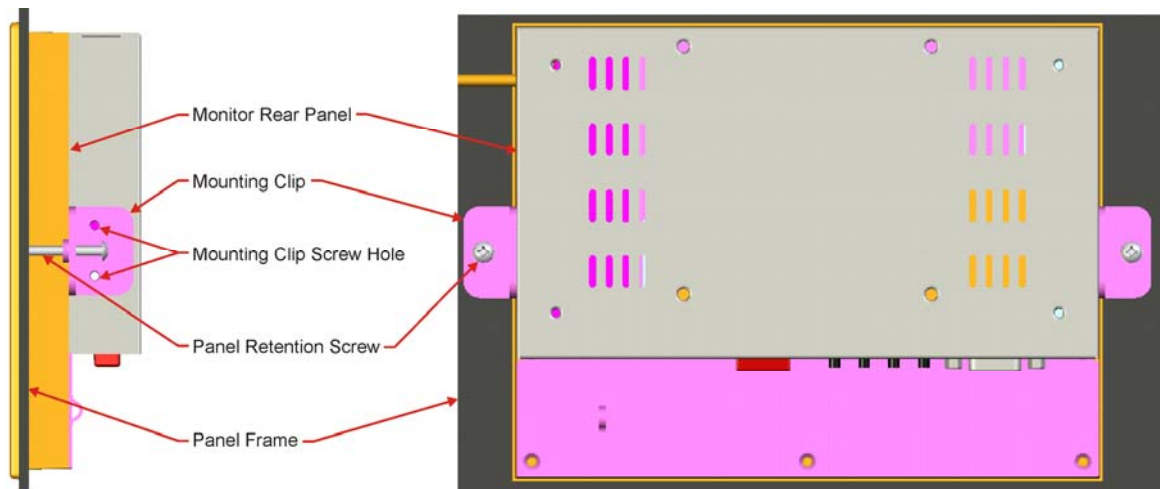

Figure 5-17: DM-65 Panel Mounting
Step 2: Secure the panel mounting clips to either side of the monitor using the retention screws supplied in the mounting kit pack (**Figure 5-17**).
Step 3: Tighten the panel retention screws that pass through the panel mounting clips until the plastic caps at the front of all the screws are firmly secured to the panel (Figure 5-17).